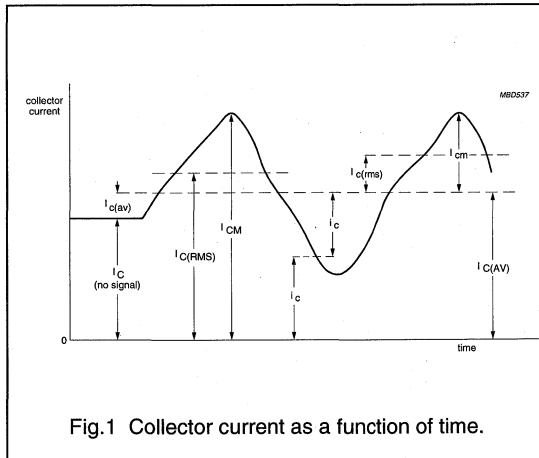

Fig. 1 Collector current as a function of time.
Fig. 1 represents a transistor collector current as a function of time. It comprises a continuous (DC) current and a varying component.